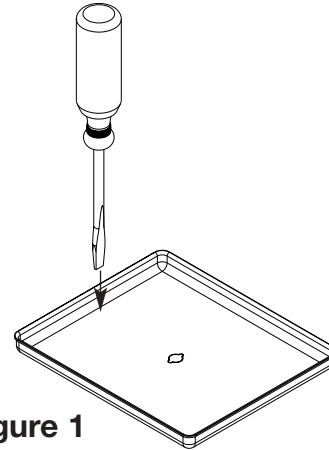

Figure 1
1. Remove Mudcap: (See Figure 1).